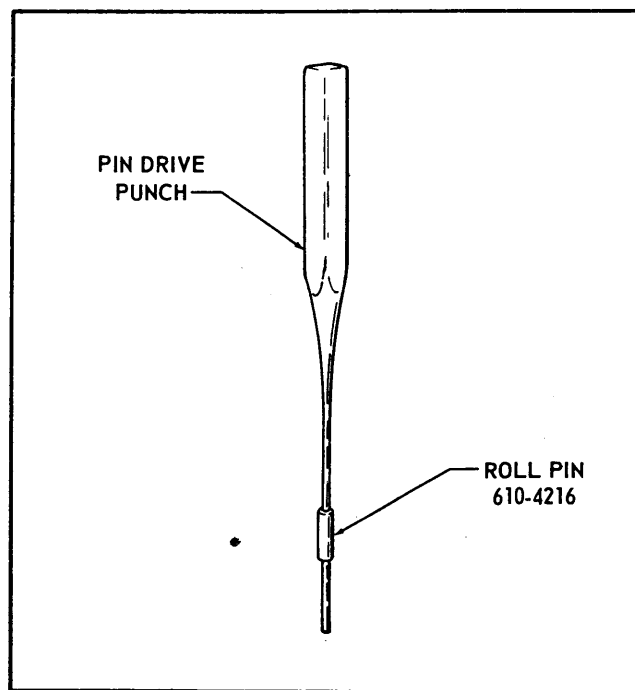

Figure 11.
T. Place the 5/32" Diameter Roll Pin, part number 610-4216, on a 1/16" drive pin punch. See Figure 11.